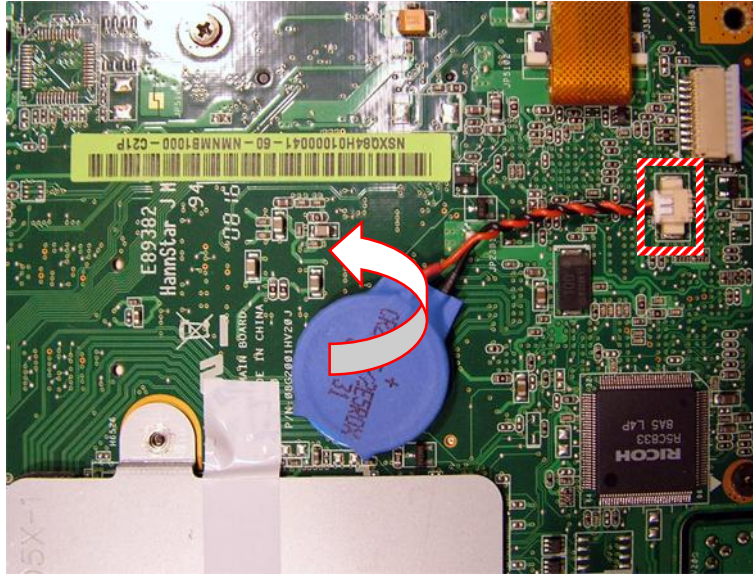

Fig. 29 Location CMOS battery.
2. The CMOS battery has been glued onto the main board; pull it loose gently (see Fig. 29).